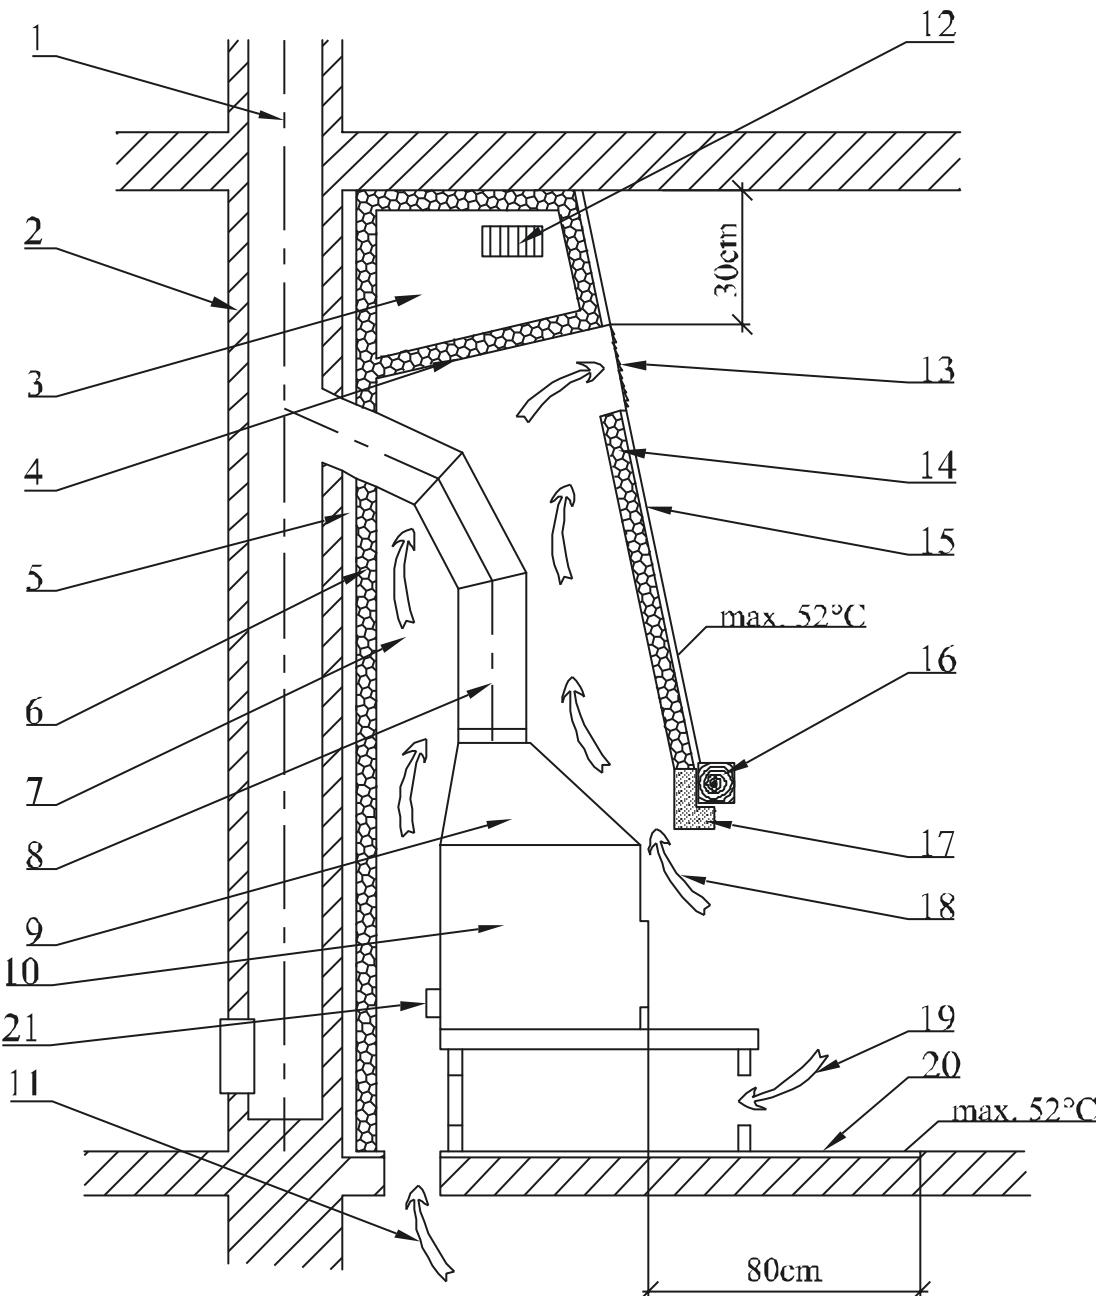

Figure 2
The safe distance from door case covers and similarly located building constructions from flammable materials and from pipeline installation including its insulation is at least **20cm**. The safe distance from other flammable parts of the building construction at least **40cm** (see fig.2) according to ČSN 06 1008/1997. This includes building materials belonging to classes **B, C and D** as defined in ČSN EN 13501-1+A1/2010 (see table no.1) The same applies for walls and especially ceilings with plaster on a flammable surface, e.g. crates, planks, etc.! When the prescribed safe distances cannot be kept, the danger of fire must be prevented through construction solutions, non-flammable applications, heat-resistant insulations or protection screens.
5. The warm conventional air outlet must be at least **30cm** below the ceiling (figure 2).
6. An inflammable ceiling construction must be present above the conventional warm air outlet. Its temperature must not exceed **50°C**. Thus, the lower ceiling must be insulated from the effects of heat coming from the fireplace by a barrier and at least one not fully closeable grated opening (figure 2) or a sufficient layer of heat insulation.